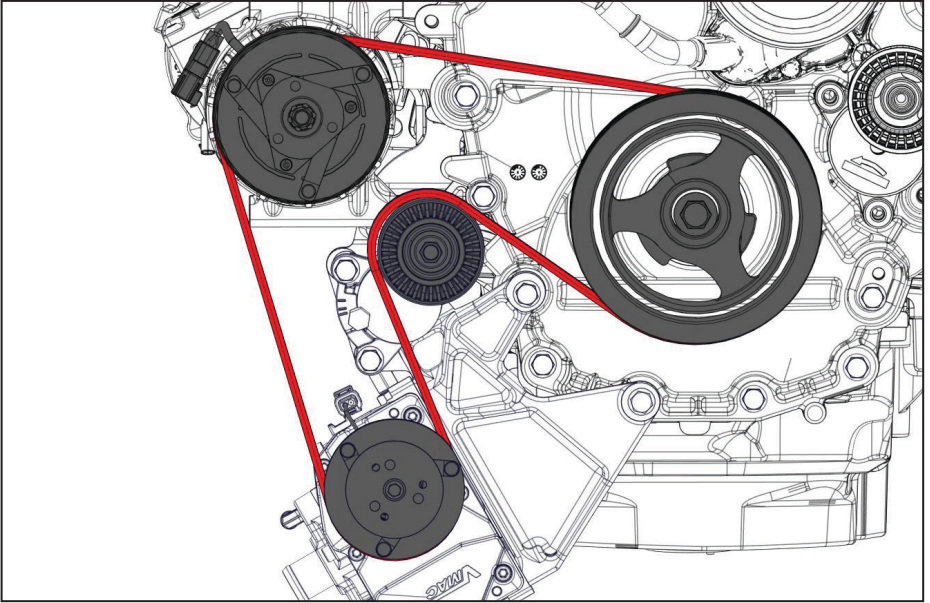

Figure 23 — Route VMAC belt
- Install and tension the supplied 4 rib VMAC Compressor belt, ensuring that it is centered on the compressor clutch (Figure 23).